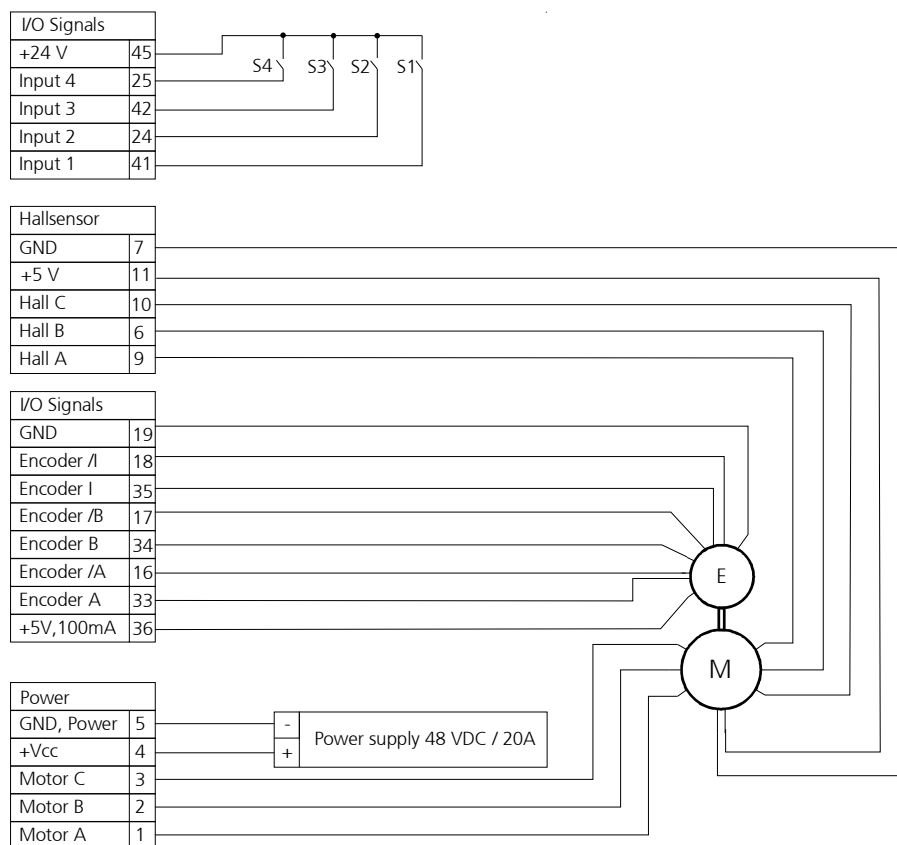

Figure 22
1. Connect the motor cables with a motor control unit (see Figure 22).